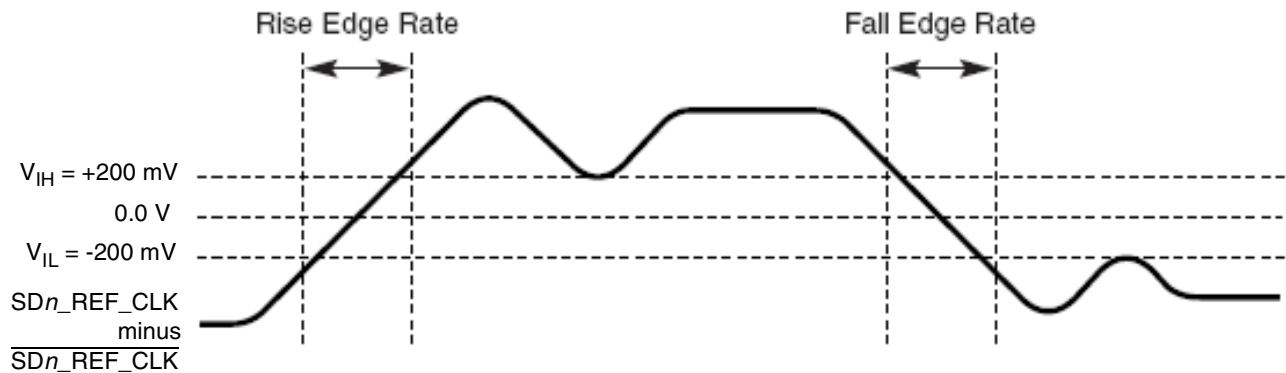

Figure 38. Differential Measurement Points for Rise and Fall Time
The differential waveform is constructed by subtracting the inverting signal ($\overline{SDn_TX}$, for example) from the noninverting signal (SDn_TX , for example) within a differential pair. There is only one signal trace curve in a differential waveform. The voltage represented in the differential waveform is not referenced to ground. Refer to Figure 38 as an example for differential waveform.
3. Measured from -200 to +200 mV on the differential waveform (derived from SDn_REF_CLK minus $\overline{SDn_REF_CLK}$). The signal must be monotonic through the measurement region for rise and fall time. The 400 mV measurement window is centered on the differential zero crossing. See Figure 38.